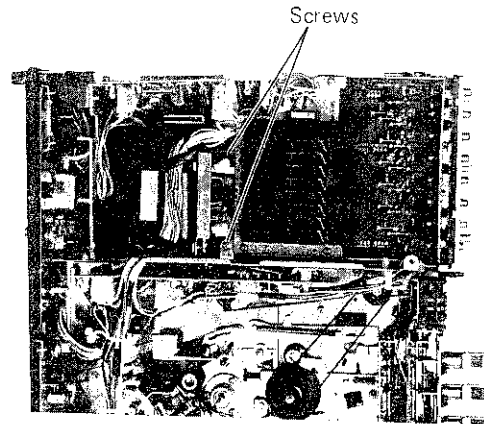

Fig. 4-13
1. Remove two screws on the tuner assembly as shown in Fig. 4-13.